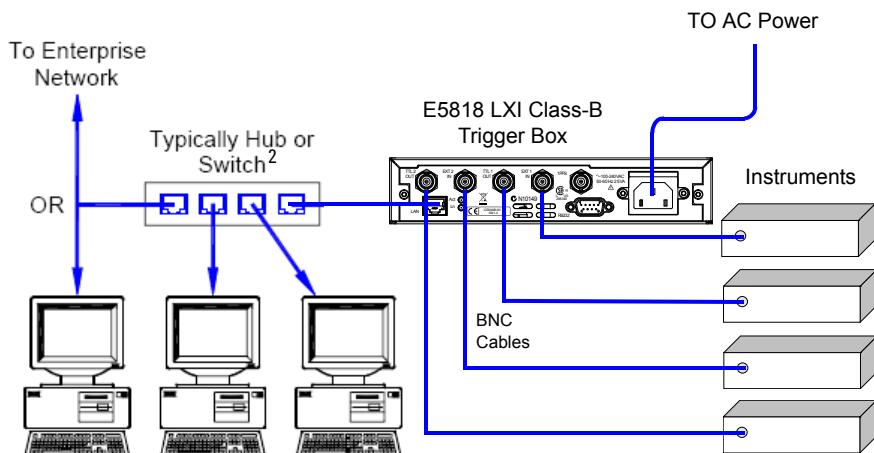

Figure 1 Connecting the E5818 to the Network and to Instruments
Step 1 Connect the E5818 to the Network and to Instruments. Figure 1 shows typical network and instrument connections for the E5818. Make connections as required for your application. See the *Agilent E5818A LXI Class- B Trigger Box User's Guide* for detailed connections.